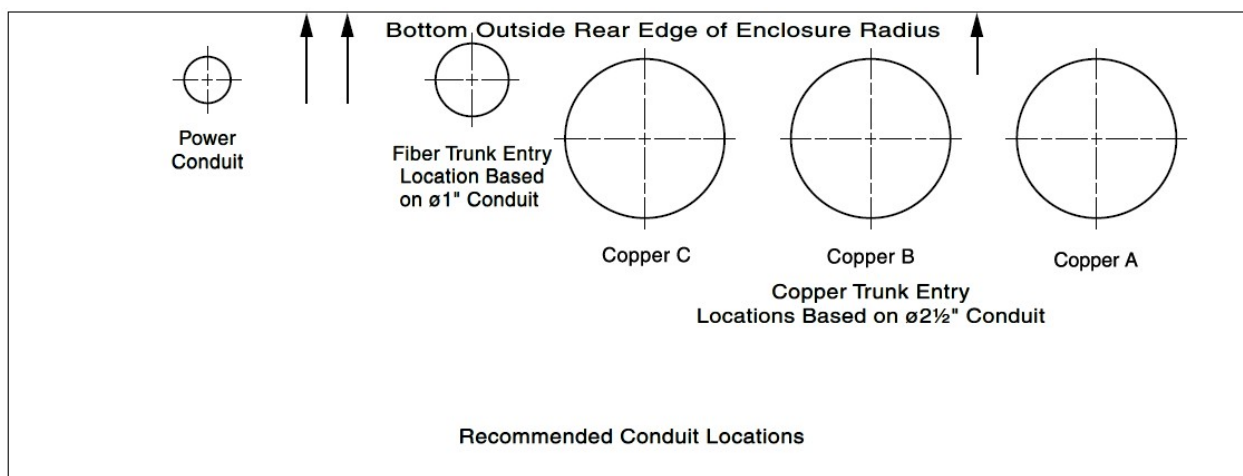

Figure 3: Recommended Conduit Location Template
3. Tape the template to the bottom of the IDF enclosure. The bottom outside rear edge of the bend is indicated on the template in Figure 3.